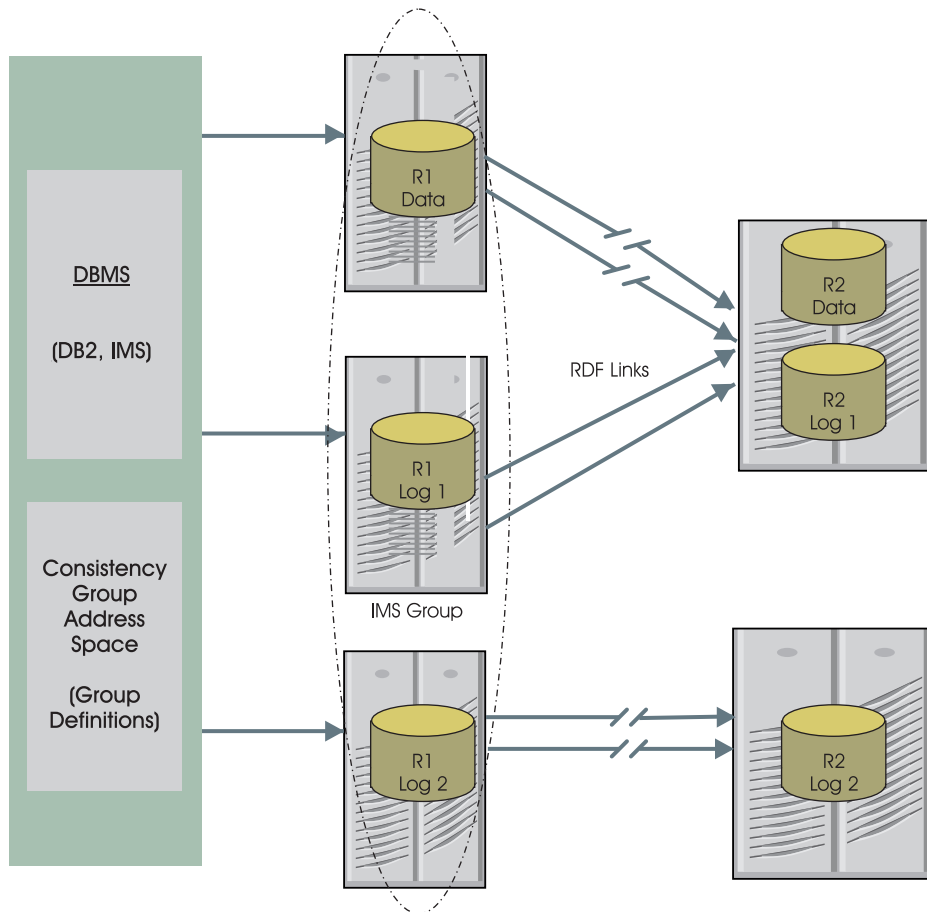

Figure 7-1 R1 READ-ONLY Example
R1 READ-ONLY (Figure 7-1) is a zero data-loss disaster recovery (DR) alternative to consistency groups operating in a campus-mode SRDF environment: